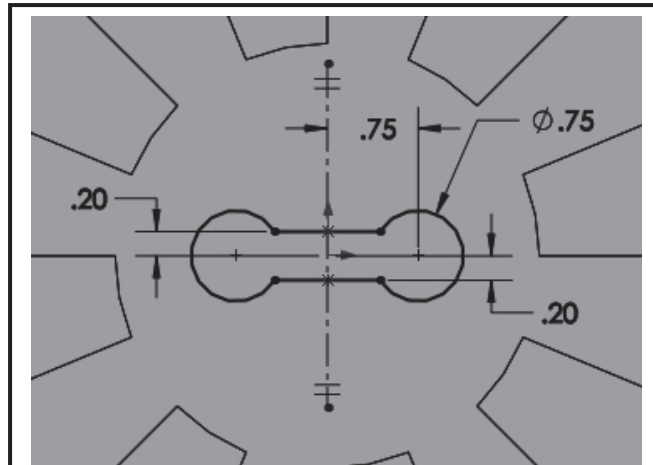

Figure 1-30. Geometry and Dimensions for the Lift Hole.
Now create the lift hole in the middle of the plate. Click the cursor on the top center surface of the cover plate (it should turn *blue*). Also, select a **Top** view orientation. You might also need to **Zoom** in to see the center portion better. Click the **Sketch Tab** and then select the **Sketch** icon to get into the sketching mode. Since the lift hole is symmetric about the origin, you can use a mirror function. So start by drawing a vertical **Centerline** (CL) through the origin. Next go to **TOOLS – SKETCH TOOLS - DYNAMIC MIRROR**. There should be short horizontal lines on either end of the centerline you drew. Every operation you perform on the right side is duplicated on the left side. Now, draw a small **Circle** to the right side of the centerline. Then draw two parallel **Lines** that start at the centerline and go through part of the circle, as indicated in **Figure 1-30**. Now apply the following inch **Dimensions** to the sketch geometry.